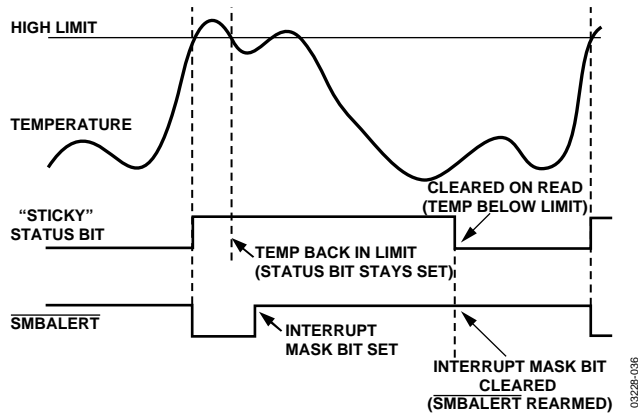

Figure 36. How Masking the Interrupt Source Affects $\overline{\text{SMBALERT}}$ Output
7. Periodically poll the status registers. If the interrupt status bit has cleared, reset the corresponding interrupt mask bit to 0. This causes the SMBALERT output and status bits to behave as shown in Figure 36.